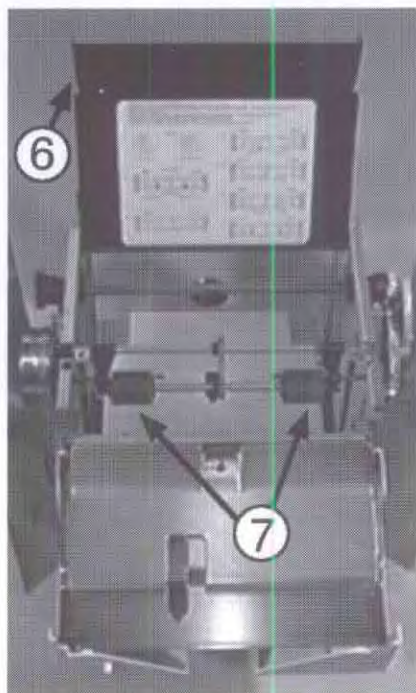

Figure 2-3. Top Cover and Feed Rollers
6. Lift the black top cover of the Paper Feeder to expose the unit's feed roller assembly, as shown in Figure 2-3.